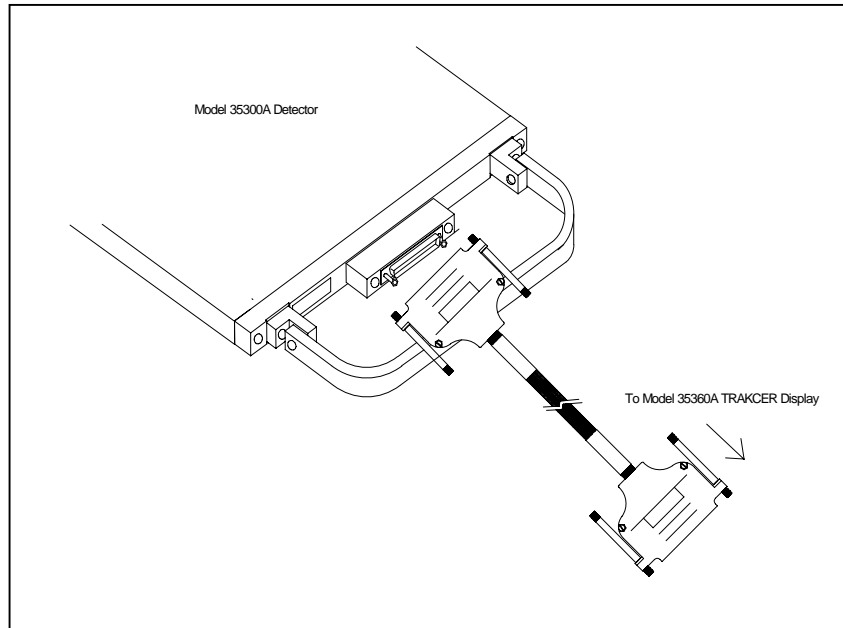

Figure 2-2. Connecting the Interface Cable to the Model 35360A TRACKER Display
Before you attach the 35300A Detector to the 35360A TRACKER Display, you must perform the following procedure (refer to Figure 2-2 and Figure 2-3).
2. Firmly press the 8-pin D connectors at either end of the interface cable into the 35360A TRACKER Display and the 35300A Detector, see Figure 2-2 and Figure 2-3.